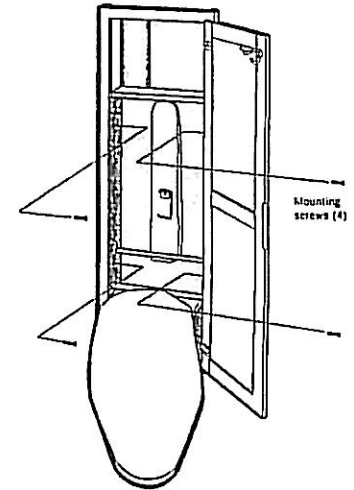

Figure 11. Securing the cabinet in the wall.
- With the door closed, place the cabinet in the wall opening. Open the door and secure the cabinet to the wall studs with the four 1-5/8" mounting screws (see Figure 11).